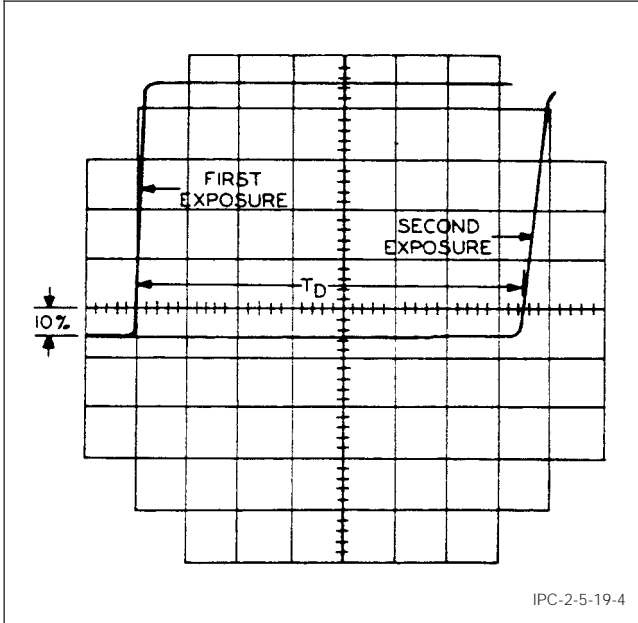

Figure 5 Dual Exposure Picture TDR Trace
5.5 Adjust the magnitude delay dial so the 50Ω termination is visible and positioned to the left on the screen. Adjust the vertical position so the pulse trace leading edge crosses the horizontal graticule center line at 10% of pulse height (see Figure 5). Mark the position of the leading edge of the pulse on the horizontal graticule (mentally or by camera). If a cam-